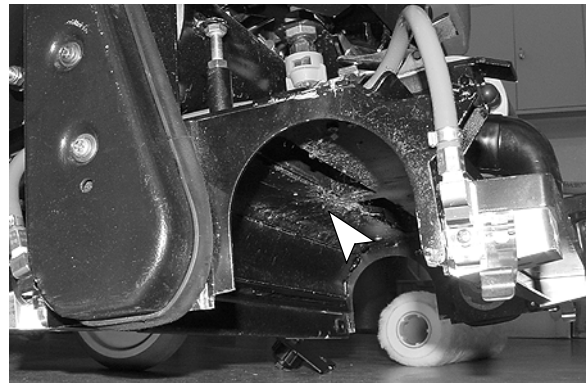

FIG. 31
- Remove any debris build-up from the underside of the scrub head (Figure 31).